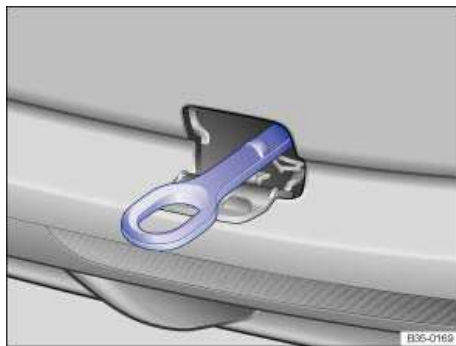

Fig. 215 In the right rear bumper: Towing eye installed.
- Screw the towing eye **counterclockwise** into the threaded hole as far as it will go ⇒ fig. 215 ⇒ . Use the lug wrench to turn and tighten the towing eye.